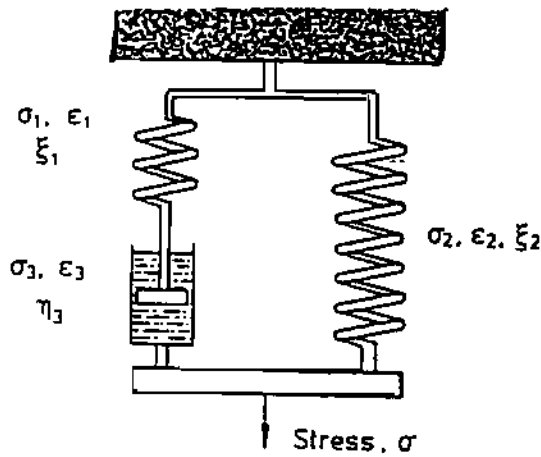

Figure 3(a)
- 3 (b) A polymer whose creep response is represented by a standard linear solid model is subjected to the stress history shown in Figure 3(b) below.